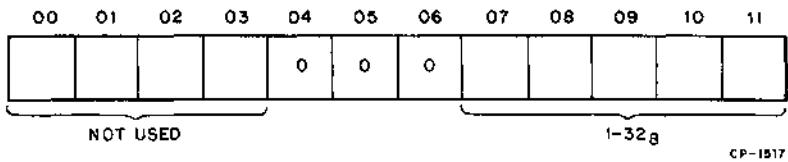

Figure 4-5 RXSA Format (RX8E)
4.3.4 RXSA – RX Sector Address (Figure 4-5)